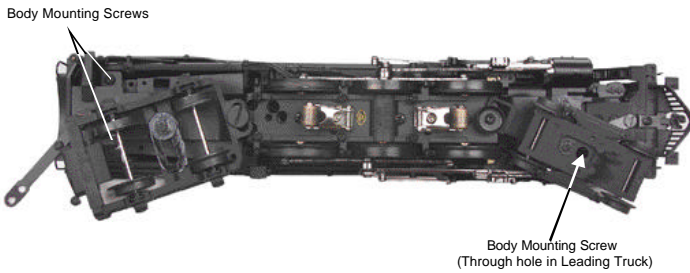

Figure 7: Removing The Body
2. Remove the boiler by removing the body mounting screws shown in Fig. 7